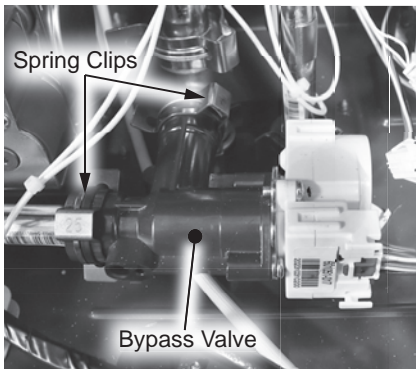

Figure 175 - Bypass valve location
17 Locate the bypass valve at the bottom front side of the water heater as shown in Figure 175. Disconnect the wiring harness from the valve.
18 Remove the two (2) spring clips (size 25) securing the bypass valve to the piping system. Remove the bypass valve from pipe connections. Place components aside in a safe place for reinstallation. See Figure 175.